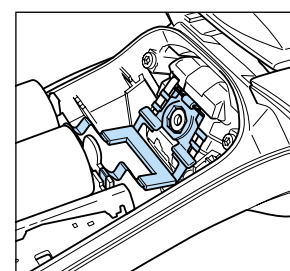

figure 2
- Think by assembly on the hooks from the connecting strip assy. (see figure 2)